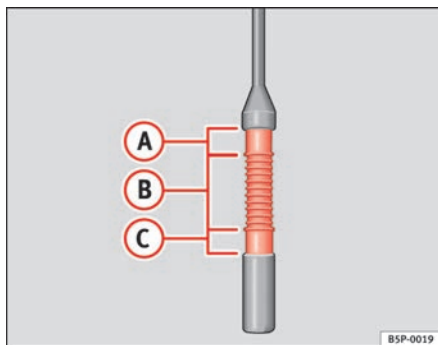

Fig. 127 Engine oil dipstick.
- Then pull it out once more and check the oil level ⇒ fig. 127. Top up with engine oil if necessary.